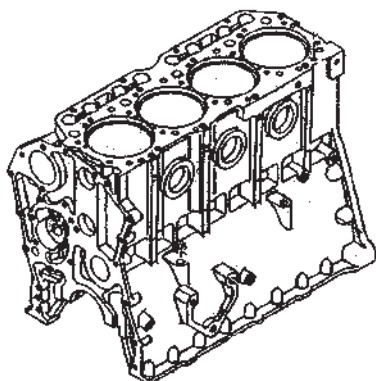

Fig. 1
**Cylinder Block** - Made of high grade cast iron. Cylinders and the crankcase form an integral casting. The crankcase is enclosed from below by the oil sump. **Fig. 1**